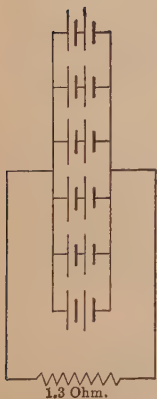

FIG. 182.
(5) Six parallel rows of 2 cells in series: Fig. 182.